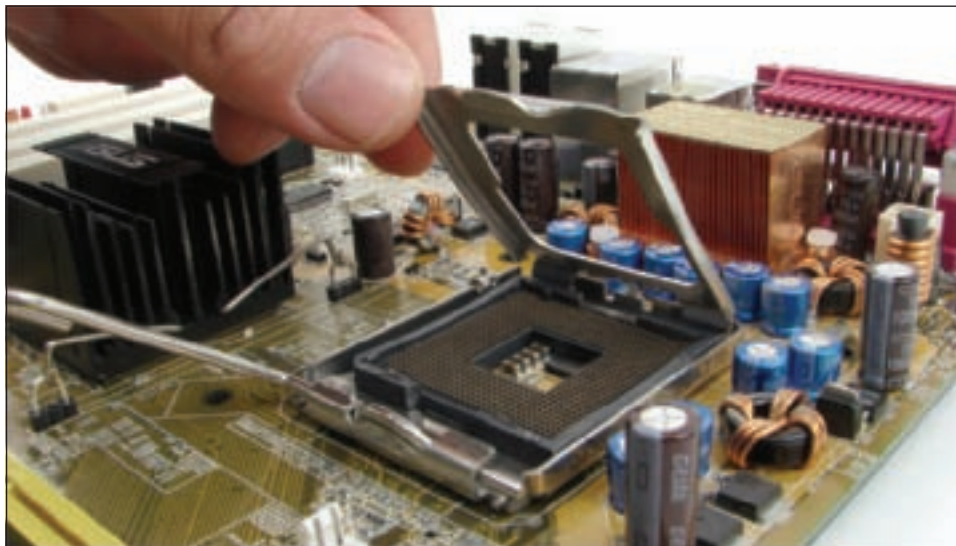

Figure 6-35 Lift the socket load plate
2. Push down on the lever and gently push it away from the socket to lift it. Lift the socket load plate (see Figure 6-35). If a protective cover is in place over the socket, remove it and save it to use later if there is not a processor in the socket.